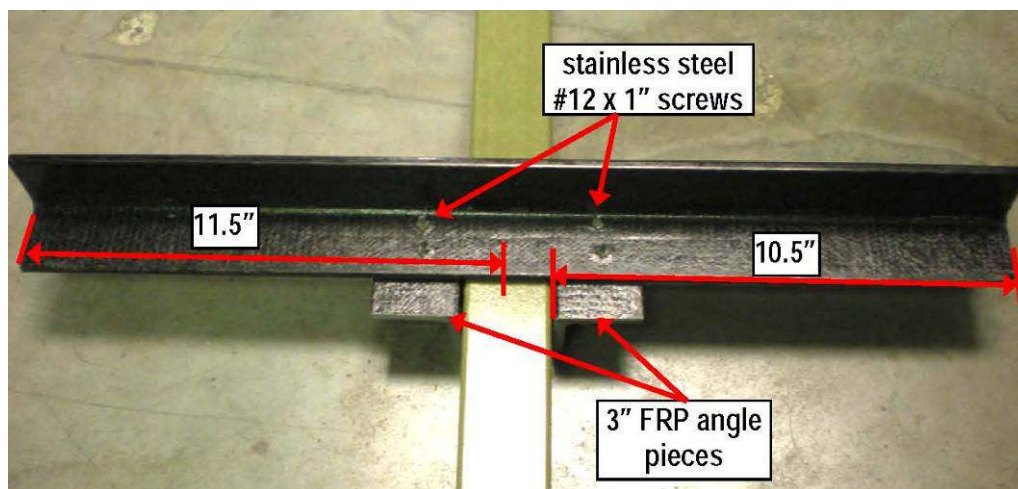

Figure 3.4
12. Assemble the INLET side support post cross braces by fastening (2) supplied 3" FRP angle pieces to each 23" FRP angle piece using a total of (4) supplied 1" self-tapping stainless steel (#12) hex screws. Use the support posts to properly space the 3" FRP angle pieces the proper distance from each other so the support post mounts at the center of the cross brace assembly. **DO NOT** fasten cross brace assemblies to support posts. See Figure 3.4.